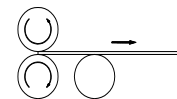

FIGURE:6
**FIGURE 6** : Push moving right or left button and turn the material to some degree. Check pre-bending by means of gauge depending on desire diameter. If pre-bending is correct, then apply same process to opposite edge by reversing material.